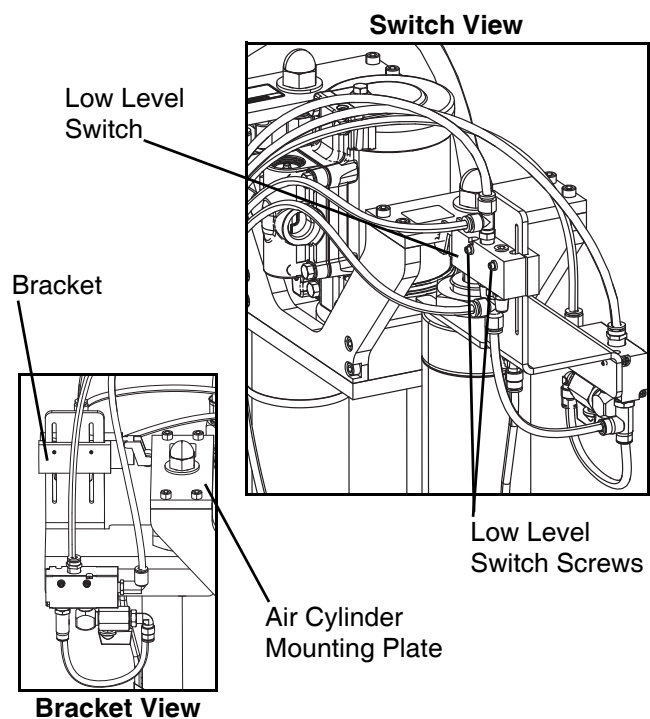

FIG. 6: Low Level Switch Adjustment
The low level switches (D) are set at the factory. However, you may need to make adjustments to them based on your specific application and the material you are using. Follow these steps and refer to Figure 6 to make adjustments.